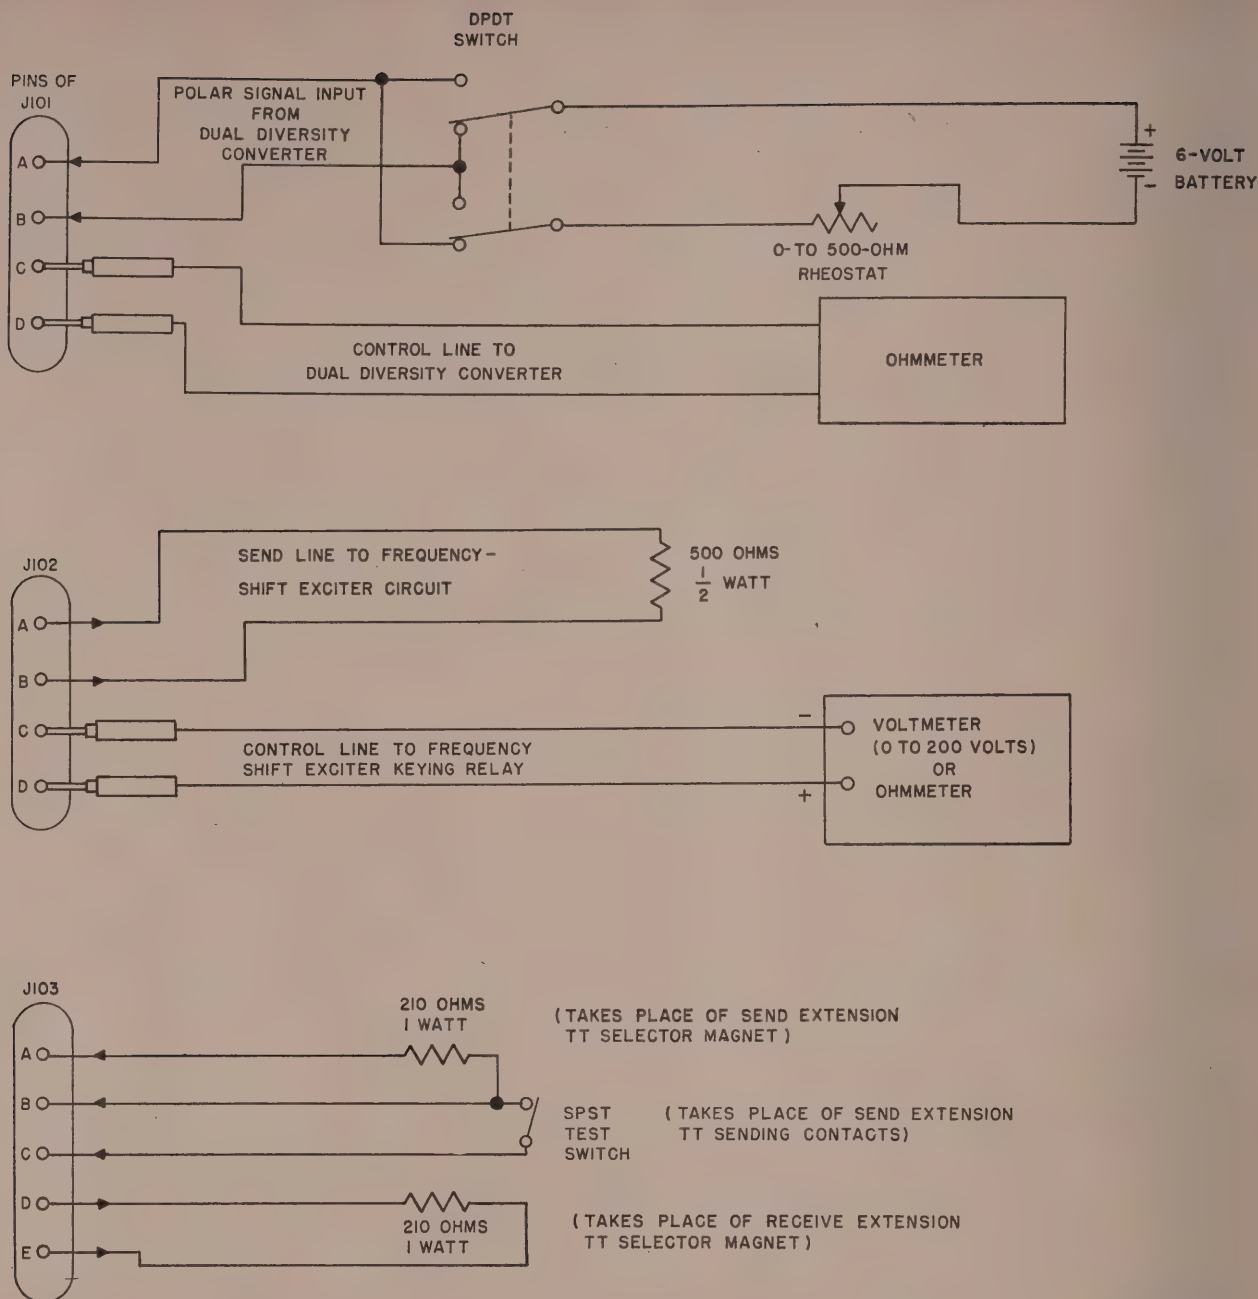

Figure 26. Test set-up for control unit.
a. *Test Set-Up.* A bench check of the control unit for observation and determination of faulty operation can be accomplished with a minimum of equipment and parts. The test set-up outlined in figure 26 is required. The three resistors, the SPST (single-pole, single-throw) switch, the DPDT (double-pole, double-throw) switch, the rheostat, the 6-volt battery (capable of supplying 25 ma), the voltmeter, and the ohmmeter should be connected to jacks J101 through J103 on the rear of the control unit. By removing and reconnecting the leads, one multimeter may be used in place of the
c. *Front Panel Control Settings.* After the test resistors and the SPST switch test connections (fig. 26) have been made to J102 and J103, connect the primary power cable to J107 on the rear of the control unit and to a 115-volt, 60-cycle primary power source. Set the front panel controls (fig. 4) as follows:
- (1) Throw the AC SUPPLY toggle switch on the front panel to the ON position. The white AC SUPPLY indicator lamp should light.
- (2) Throw the TRANSMITTER switch to the ON position. The green TRANSMITTER indicator lamp should light.
- (3) Turn the SERVICE switch to the FULL DX position.
- (4) Turn the OPERATION switch to the NORMAL position.
- (5) Turn the EXTENSION CURRENT knob to maximum counterclockwise position.
- (6) Turn the SENDING LINE CURRENT SPACE and MARK knobs to maximum counterclockwise positions.
- (1) Check to see that the AC SUPPLY switch is ON, the TRANSMITTER switch is ON, the SERVICE switch is in FULL DX position, and the OPERATION switch is in NORMAL position.
- (2) Check to see that the SPST test switch (fig. 26) is closed (on).
- (3) Turn the front panel METER knob to REC EXT CURRENT.
- (4) Press the RECEIVING TEST MARK button on the front panel of the unit.
- (5) Adjust the EXTENSION CURRENT control until the meter indicates +75 to the right of zero center. Release button.
- (6) Press the RECEIVING TEST SPACE button. The meter should indicate zero. Release button.
- (7) Turn METER switch to BALANCE.
- (8) Raise lid on control unit and, with a screwdriver, adjust the BALANCE ADJ potentiometer while alternately pressing the RECEIVING TEST MARK and SPACE buttons. Continue this adjustment until the meter pointer swings to the same dial reading to the left and right of zero center. This reading should be between 70 and 80 when adjustment is finished.
- (2) Turn the METER knob to the SEND LINE CURRENT position.
- (3) Make sure that the SPST test switch (fig. 26) is in the closed position.
- (4) Adjust the SENDING LINE CURRENT MARK control until the panel meter indicates +60 to the right of zero center.
- (5) Throw the SPST test switch to the open position. This simulates depressing the break key on the sending teletypewriter.
- (6) Adjust the SENDING LINE CURRENT SPACE control until the panel meter indicates -75 to the left of zero center.
- (7) Turn the METER switch knob to the SEND EXT CURRENT position. The meter should read zero.
- (8) Throw the SPST test switch to the closed position. The meter should read between +65 and +85 to right of zero center. In full-duplex operation this SEND EXT CURRENT is not adjustable.
- (9) Turn the SERVICE switch first to HALF DX then to ONE WAY. In both positions the SEND EXT CURRENT is controlled by EXTENSION CURRENT potentiometer and should be adjusted to +75 to the right of zero center on meter.
- (3) *Control circuit to FS exciter keying relay and dual-diversity disabling relay, one-way reversible operation.*
h. Operating Check. After the above checks have been made, an operating check of the control unit input circuit should be made. It is possible to make this check by means of resistance measurements, but occasionally trouble will occur in the input transformer which will produce faulty operation, but which will not be indicated by a continuity test. For this reason an adjustable source of d-c voltage is required to provide the 25-ma marking or spacing current for the input circuit. For example, in figure 26 a 6-volt battery in series with a 0- to 500-ohm rheostat is connected to a DPDT switch. Reversal of the switch position reverses current flow through the input circuit, thus simulating polar mark and space signal transitions. To perform the control unit input circuit test, proceed as follows (the control unit should be energized) :
- (1) Set the adjustable voltage control rheostat (fig. 26) so that maximum resistance is in the circuit.
- (2) Check to see that one of the leads from the adjustable voltage source goes to pin A of J101 and that the other goes to pin B of J101.
- (3) Set the SERVICE switch to FULL DX and set the OPERATION switch to NORMAL.
- (4) Turn the METER switch to REC LINE CURRENT.